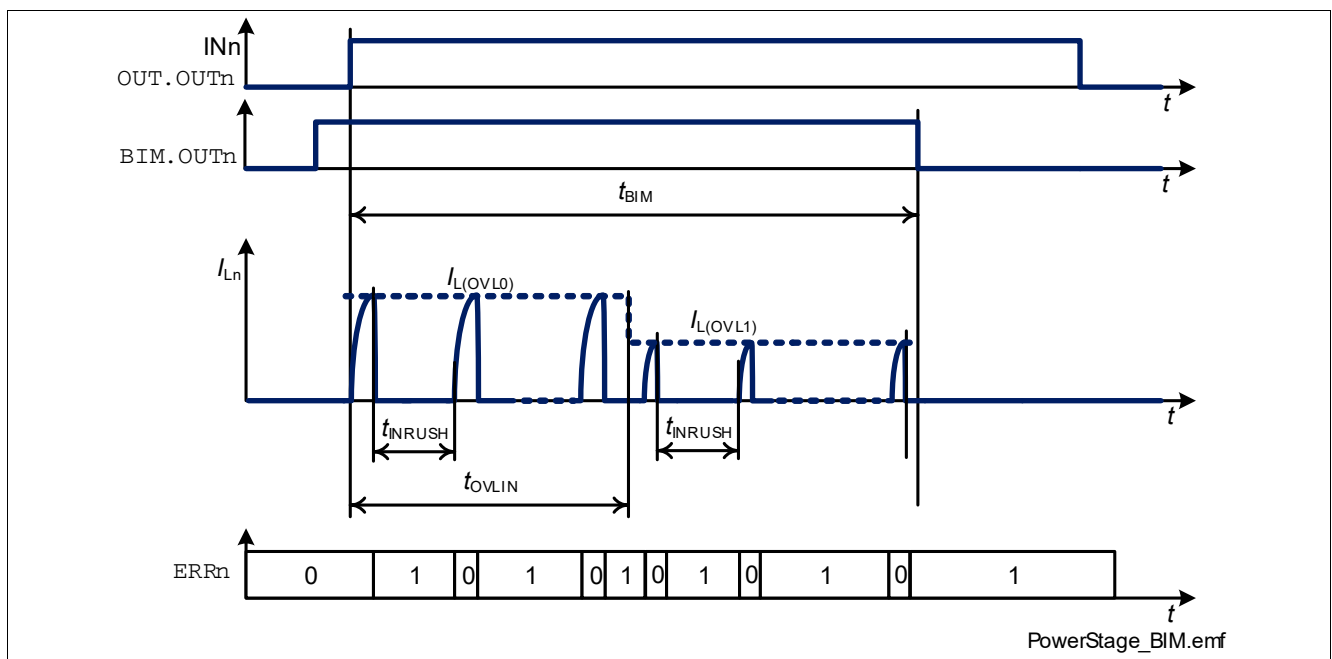
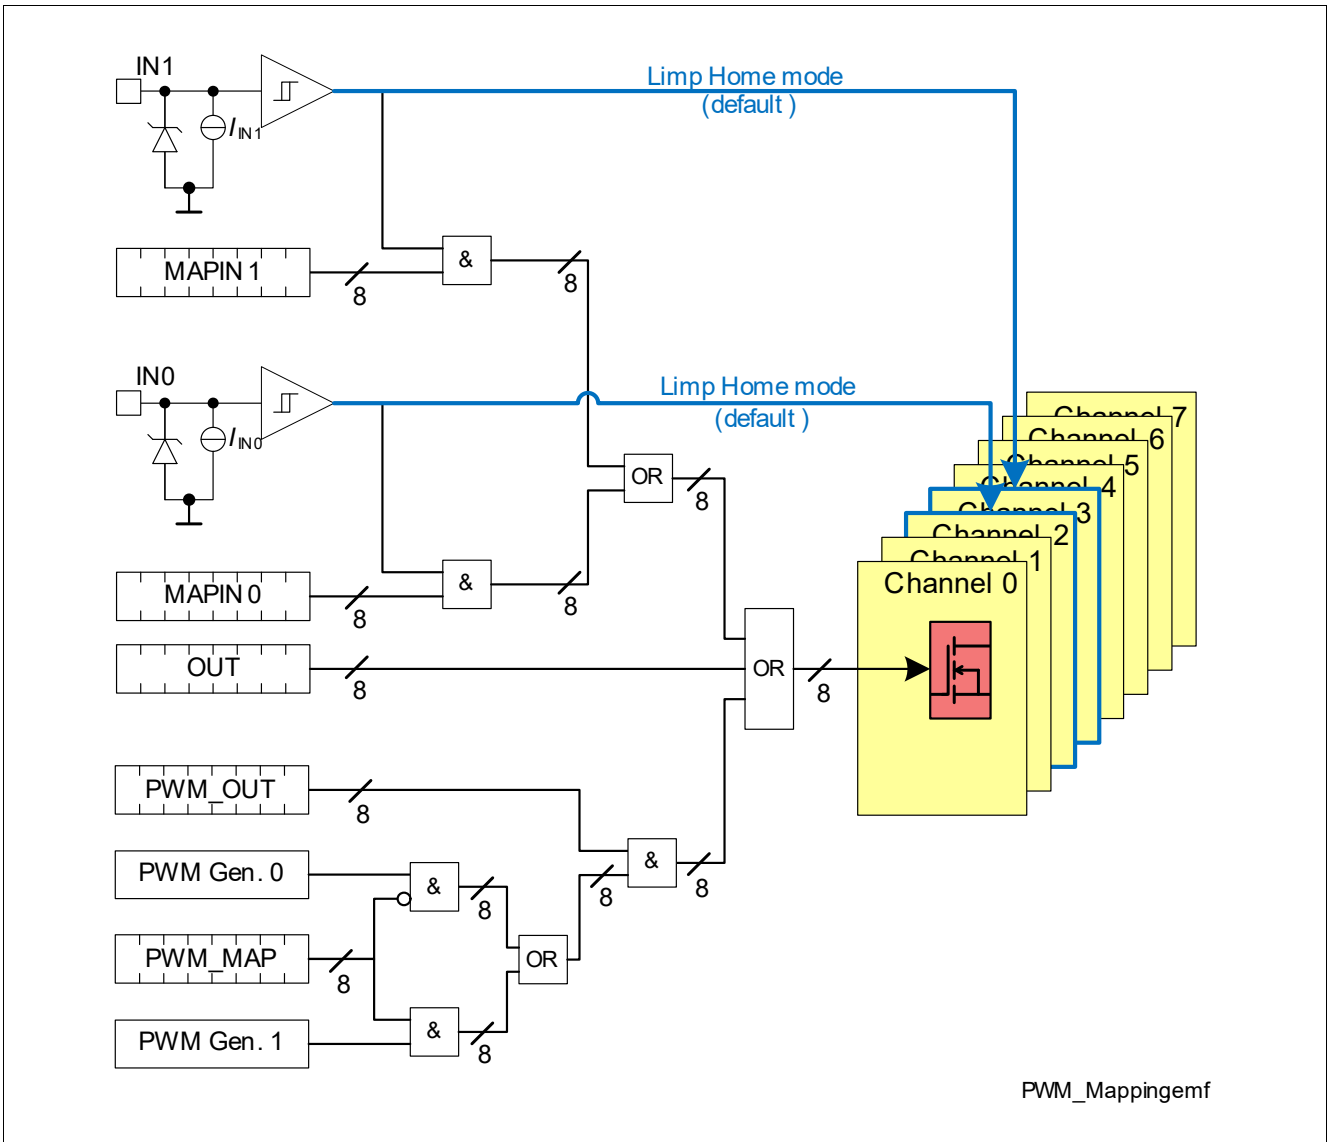

Figure 19 Bulb Inrush Mode (BIM) operation
Figure 20 PWM Generator Mappings
If the corresponding bit **BIM.OUTn** is set to “1”, in case the channel reaches the overload current threshold or the overtemperature threshold and latches OFF, it restarts automatically after a time  $t_{INRUSH}$ , allowing the load to go out of the inrush phase. A time diagram is shown in Figure 19. As shown, the counter starts when the channel is switched ON. Every channel switch OFF (independently from the entity controlling the channel - see Figure 20 for further details) resets the bit **BIM.OUTn** to “0”.
**Figure 20** expands the concept shown in **Figure 10** adding the PWM Generators.